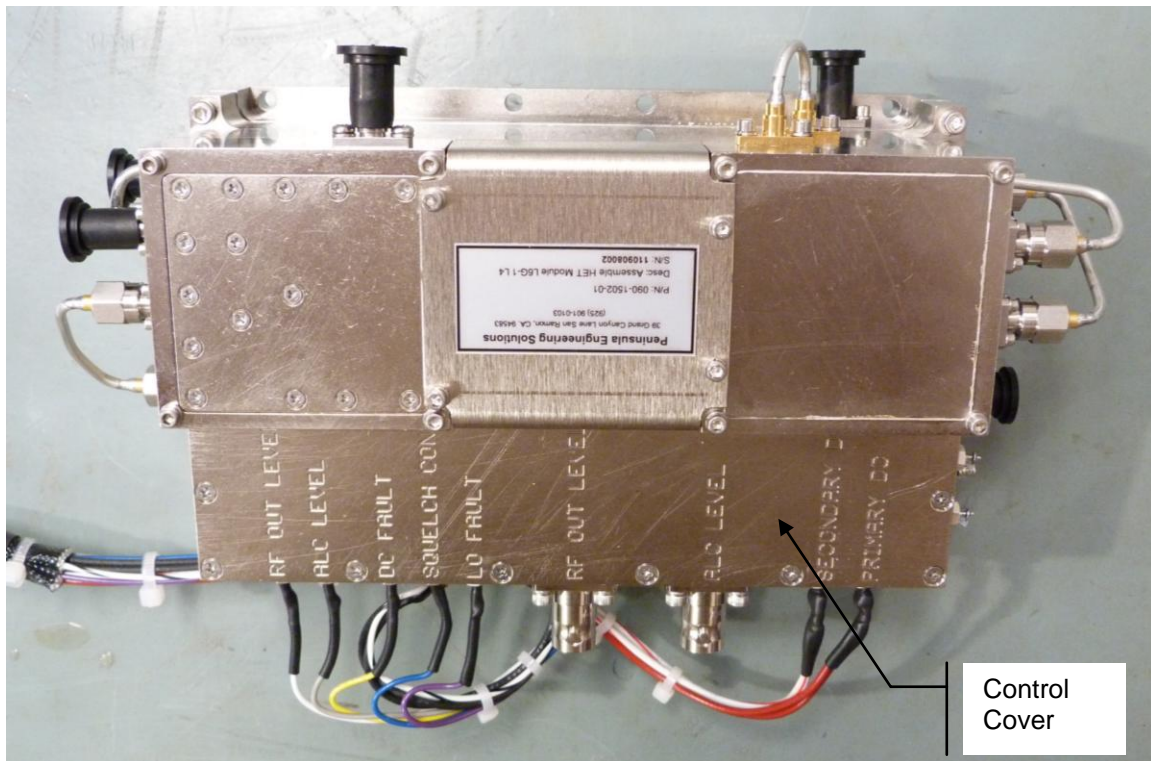

Figure 21 Heterodyne RF Module
2. Locate the Heterodyne RF Module inside the unit enclosure. See Figure 21.